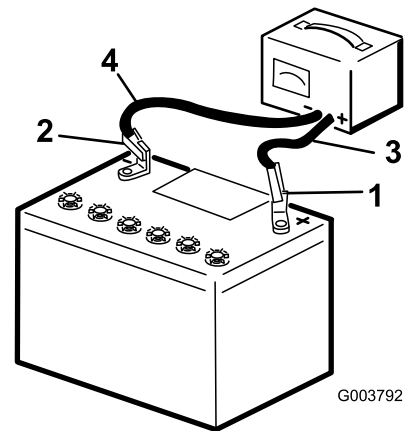

Figure 57
2. Connect the positive lead of the battery charger to the positive-battery post (Figure 57).
3. Connect the negative lead of the battery charger to the negative-battery post (Figure 57).
5. When the battery is fully charged, unplug the charger from the electrical source, then disconnect the charger leads from the battery posts (Figure 57).